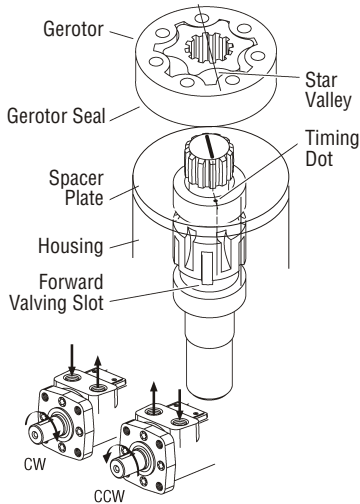

Figure 5-33, Reverse Rotation
26. For reverse rotation align any star valley with the marked tooth on the drive. (Figure 5-33)